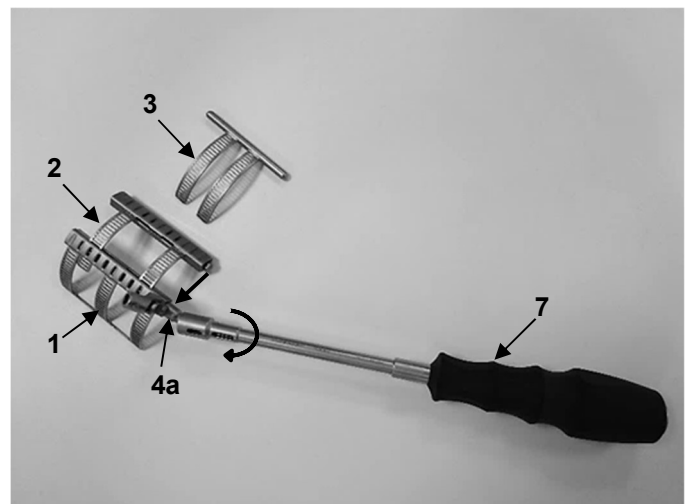

Fig. 14
1. Insert the primary element (2) into the basic element (1) and retract using the LMT-4 cardan screwdriver (7). To do this, turn the outer hexagon screw on the cage module of the basic element (4a) counter-clockwise using the LMT-4 cardan screwdriver (7) (Fig. 14).